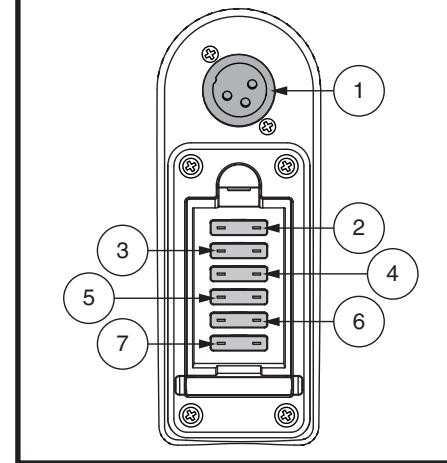

Figure 2. Off-board Charger Port/Tiller Console Fuses
The off-board charger power cord plugs into this port during battery charging. The off-board charger port is located on the tiller. See **figure 2**.
Your scooter is equipped with a series of electrical system fuses, which help protect the off-board charging system, key switch and lighting system from receiving an overload of electrical current. These fuses are the same type used in automobiles and are located in a compartment on the tiller. See **figure 2**. See VIII. "Care and Maintenance" for fuse replacement.
- Ensure the charger fuse on the tiller is not blown. See figures 2 and 25.